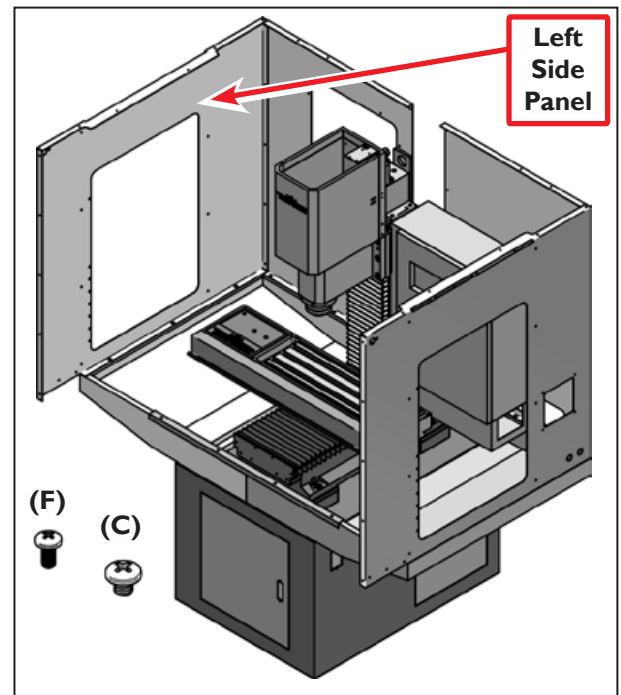

Figure 6
- 14.** Place the Left Side Panel (E.17) on top of the left side of the machine stand (see **Figure 6**).